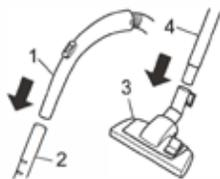

Fig.3
2. Insert the handle (Fig. 3/1) into the upper end of the telescopic tube (Fig. 3/2).
3. Attach the floor nozzle (Fig. 3/3) to the bottom end of the telescopic tube (Fig. 3/4).